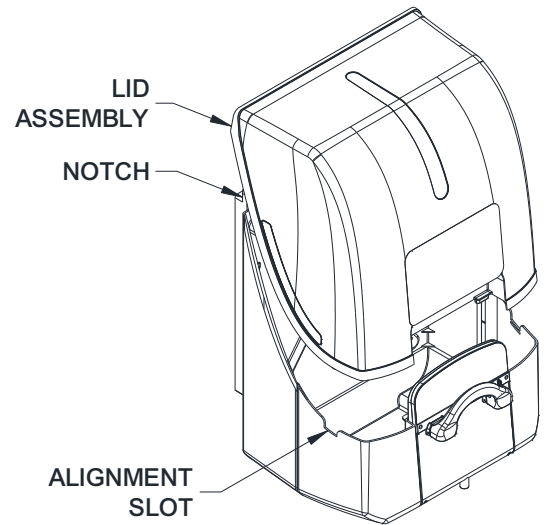

Figure 6
Step 5. Lid Assembly (Ref Figure 6) *Lower Insulated Jacket not shown for clarity.*